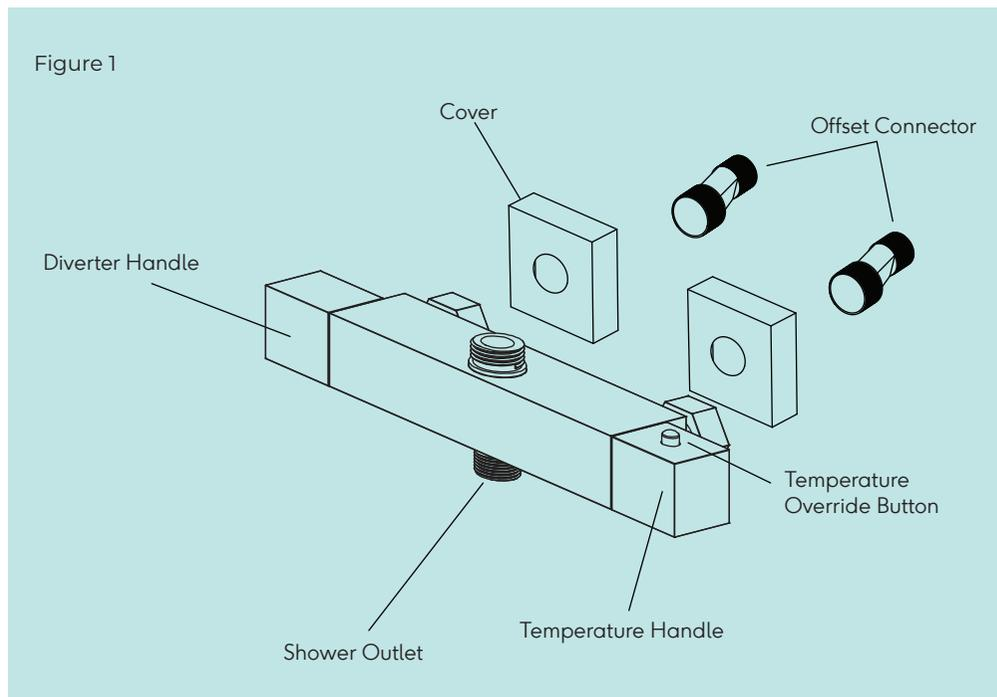

Figure 2
2. Measure the distance 'A' in figure 2, referring to the product purchased. Mark the fixing points on the wall as shown in figure 3.